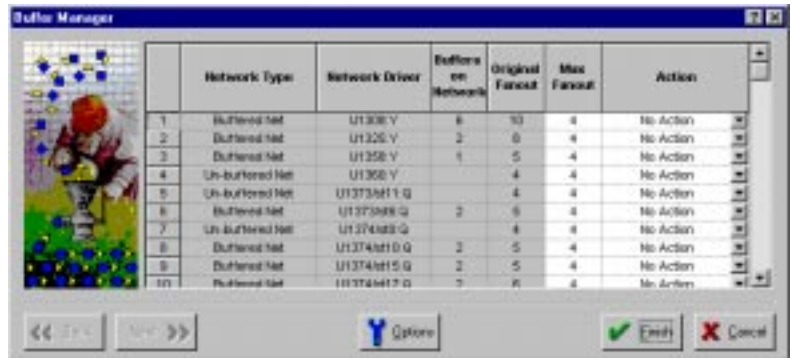

Figure 5-15. Buffer Manager Dialog Box
1. **Select Buffer Manager from the Tools menu.** This displays the Buffer Manager dialog box, as shown in Figure 5-15.